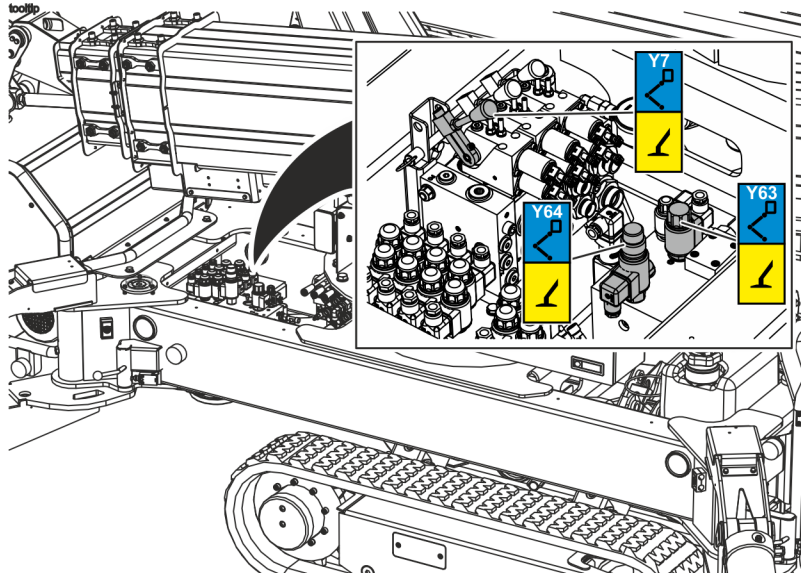

Fig. 171: Valves
- 12.** Completely screw in the release valve (Fig. 171/Y63).
- 13.** Completely screw out the pressure relief valve (Fig. 171/Y64).
- Make sure that for normal mode the valves (Fig. 171/Y63, Y64 and Y7) are in the initial position.